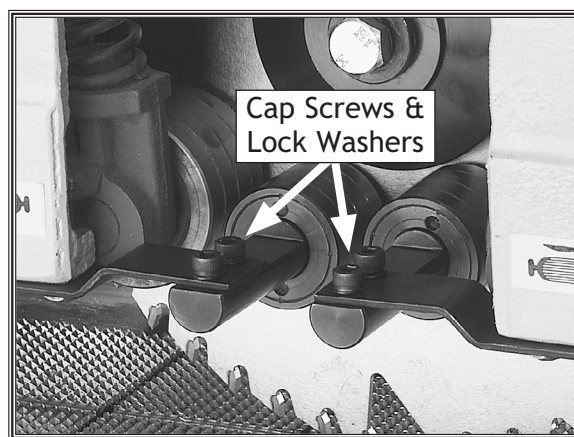

Figure 25. Auxiliary roller mounting configuration.
6. Using the 5mm hex wrench, secure the four auxiliary rollers to the brackets with the eight M6-1 x 16 cap screws and lock washers (see **Figure 25**).